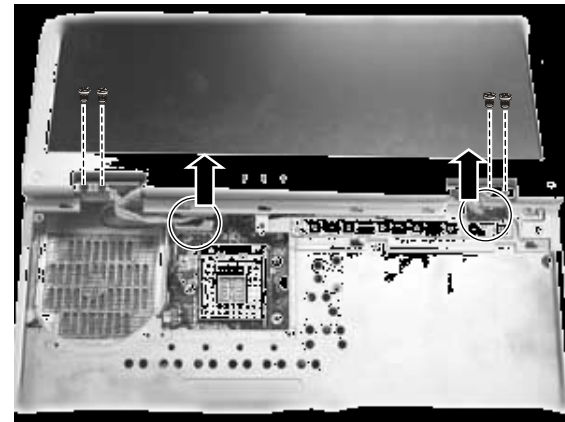

Figure 2-16 Remove cables and Screws to separate LCD
4. Disconnect the LCD cable from the system board, and remove four screws of the hinges. Now you can separate the LCD assembly from the base unit. (Figure 2-16)